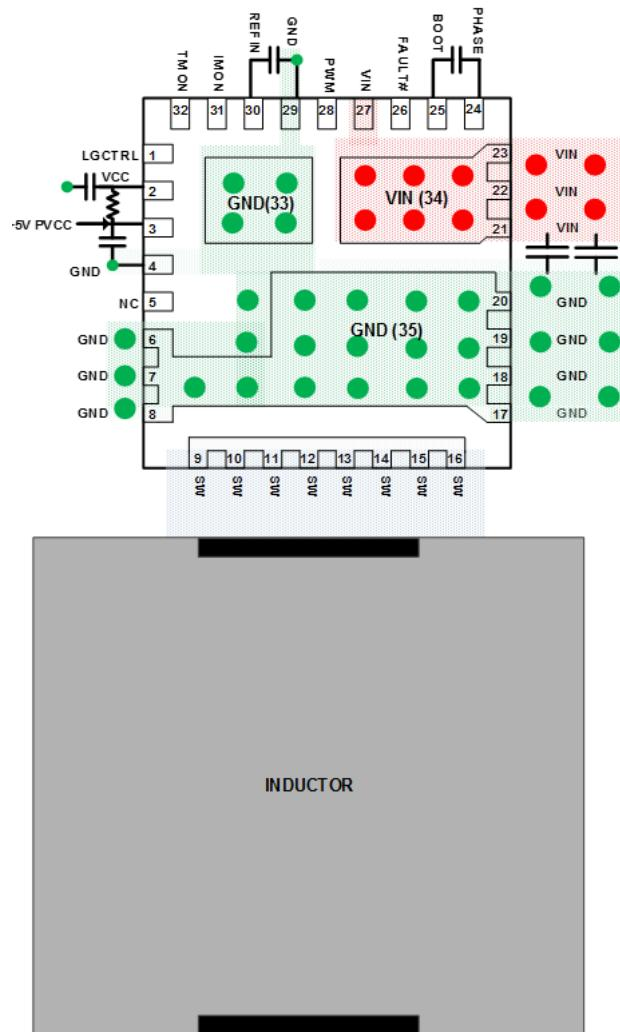
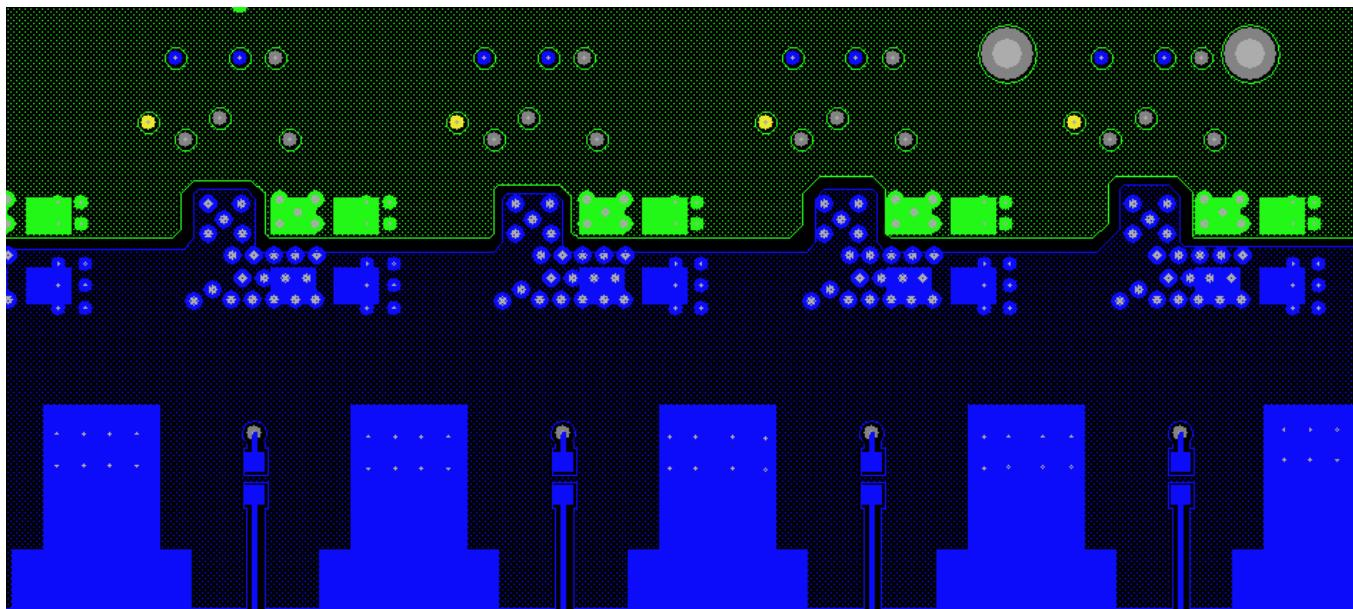

FIGURE 15. SINGLE-PHASE PCB LAYOUT FOR MINIMIZING CURRENT LOOPS
FIGURE 17. MULTIPHASE PCB LAYOUT EXAMPLE BOTTOM LAYER
- Place multiple 10µF or greater ceramic capacitors directly on the device between VIN and GND as indicated in Figure 15 on page 14. This is the most critical decoupling and will reduce parasitic inductance in the power switching loop. This will reduce overall electrical stress on the device as well as reduce coupling to other circuits. Best practice is to place the decoupling capacitors on the same PCB side as the device. For a design with tight space requirements, these decoupling capacitors can be placed under the device, that is, bottom layer, as shown in Figure 17 on page 15.
- Place PVCC, VCC, and BOOT-PHASE decoupling capacitors at the IC pins as shown in Figure 15 on page 14.
- The IMON and IREF network and their vias should not sit on the top of the VIN plane. A keep out area is recommended, as shown in Figure 17 on page 15.